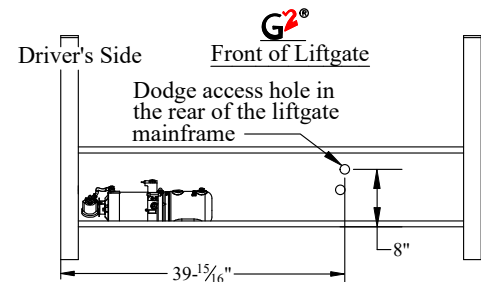

Figure 17: G2® spare tire access.
2. **Remove and Discard** the black plastic plug from the mainframe in the location shown (Figure 17).